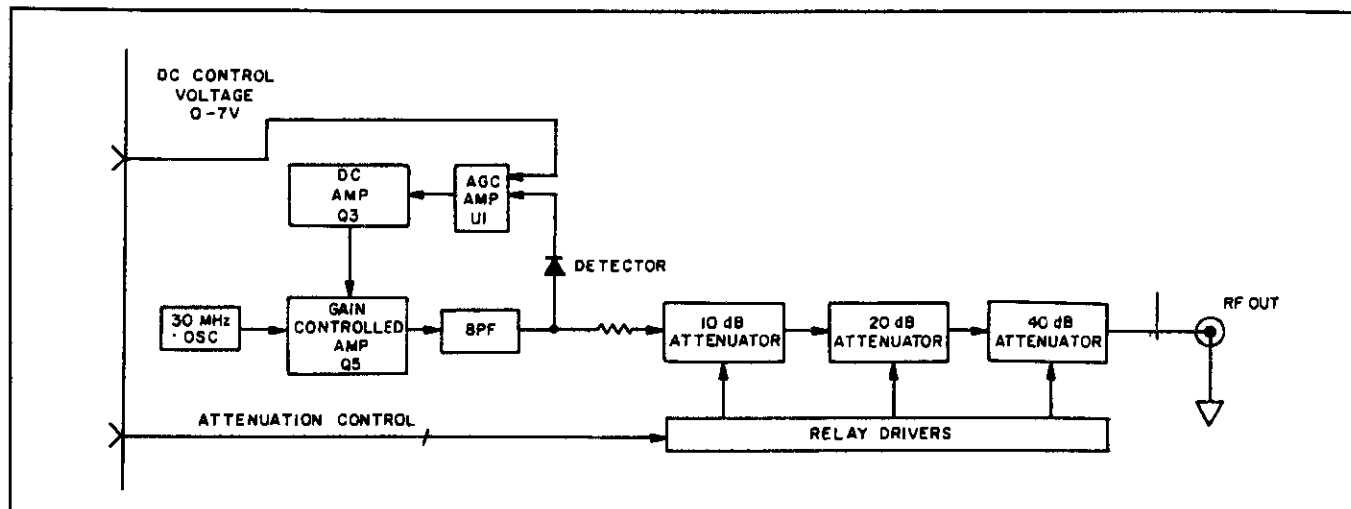

Figure 5-4. 30 MHz Generator Block Diagram
1. **General.** Refer to Figure 5-4. The calibrator is a microprocessor-controlled, software-calibrated 30 MHz crystal controlled generator. The described power output may be programmed from the keyboard or IEEE-488 bus in 1 dB steps from +20 dBm to -60 dBm. The output impedance is 50Ω at 30 MHz.